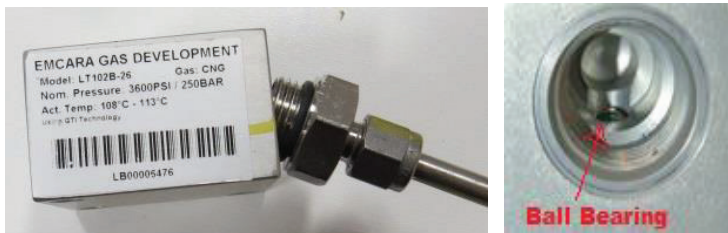

Figure 14: Ball bearing in the PRD.
6. Make sure the ball bearing is in place and hold the PRD with the “label up” to trap the ball bearing in its bore (Figure 14).